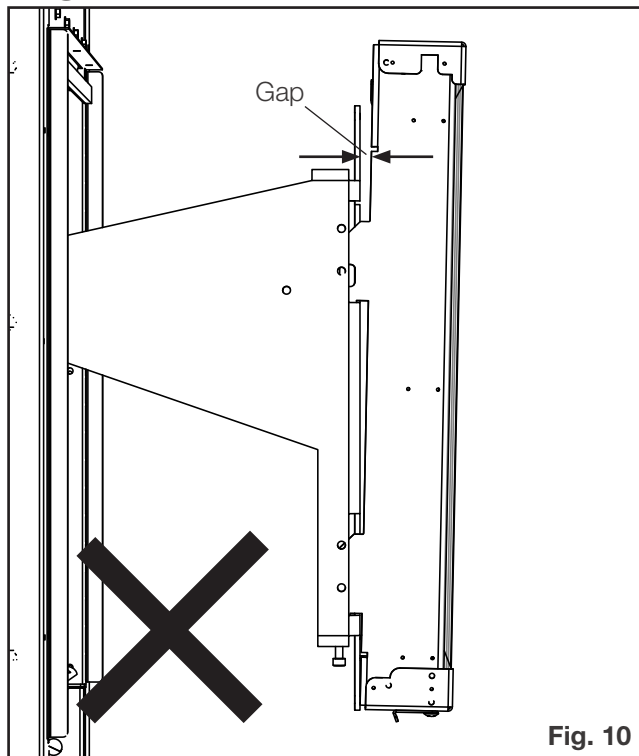

**Fig. 8**
- The GGA-1 mount bracket holes should be lined up with the screw holes of the GGA-1 slider brackets to ensure a clear line of sight (**Fig. 8**). It is typically necessary to raise the GGA-1 on both sides using the vertical adjustment screws. Raising the GGA-1 approximately 1/8" typically provides the optimum preliminary fit (**Fig. 9**). Repeat on other end of GGA-1.